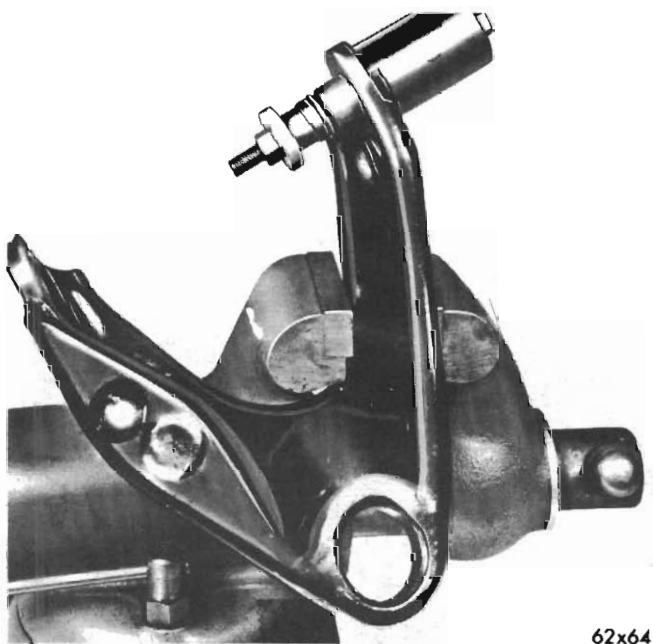

Fig. 18 - Removing upper control arm bushing (Tool E2C25A)
(7) Assemble Tool E2C25A over bushing and press bushing out of arm (from inside out) (Fig. 18).